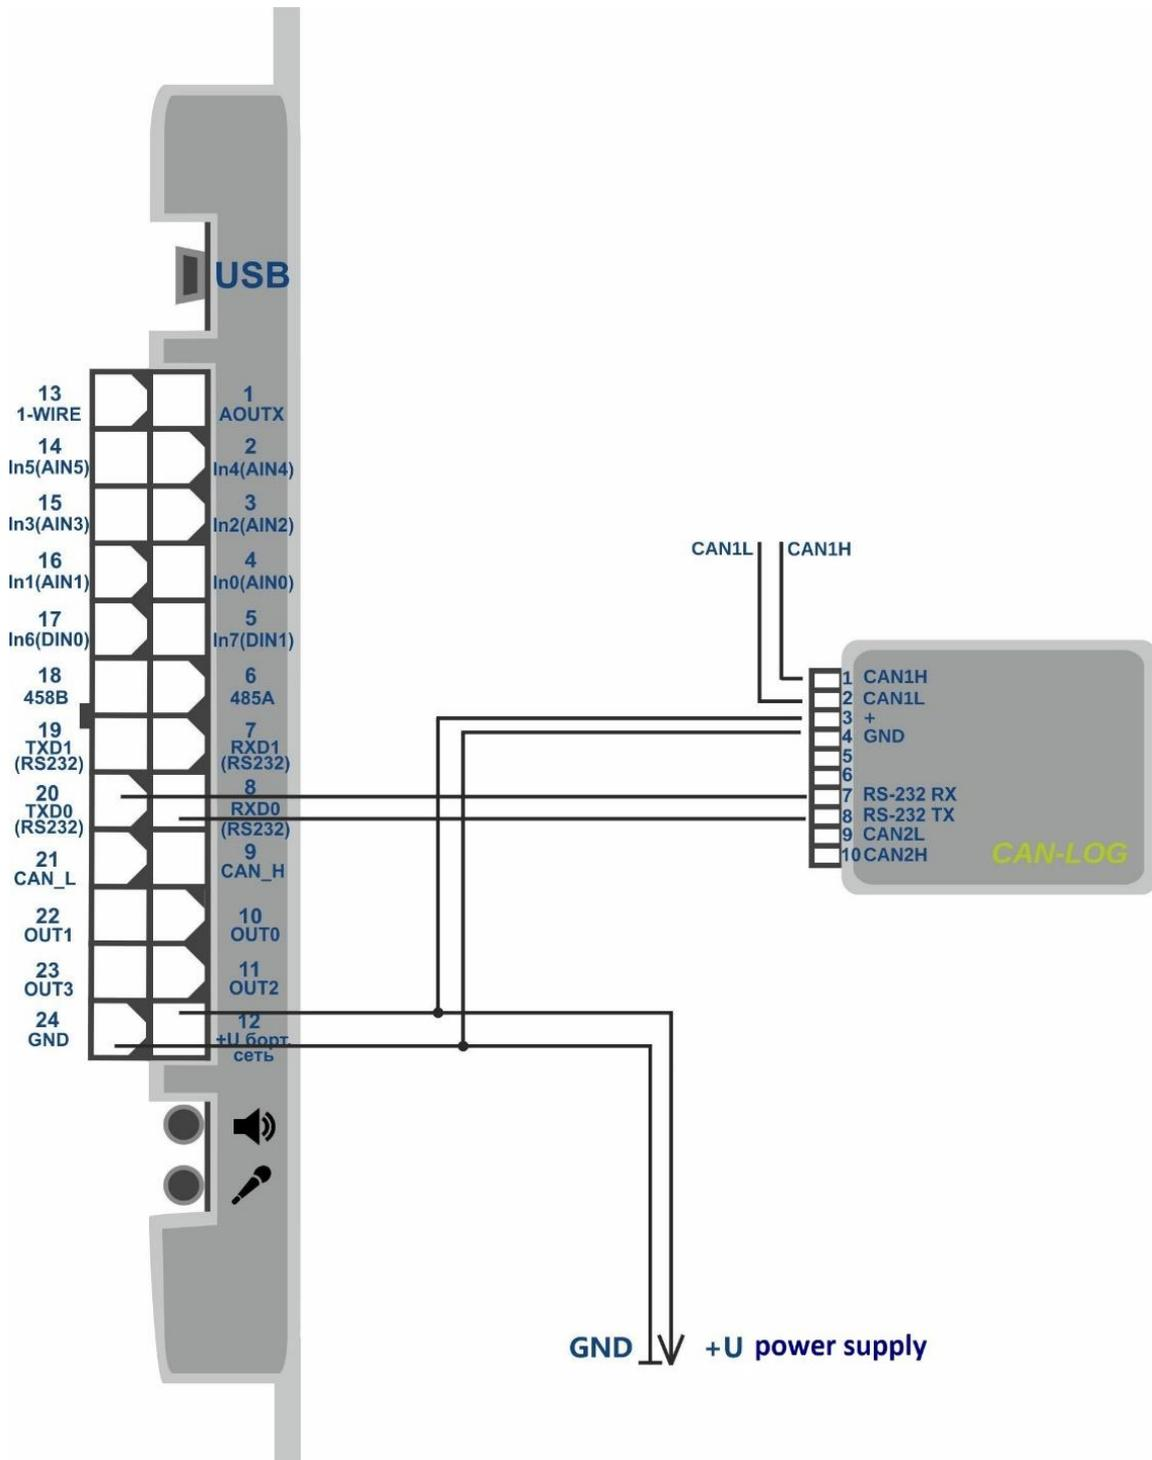

Figure 14 – Connection layout of CAN-LOG to the RS-232 interface (12 +U vehicle electrical system)
- perform a CAN-LOG connection to any of the RS-232 ports in accordance with the diagram shown in Figure 14;